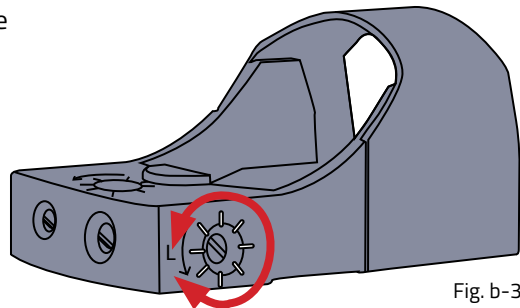

Fig. b-3
5. To move the dot left or right, use the included screwdriver to turn the screw on the right side of the DTRO counter-clockwise or clockwise, respectively. (Fig. b-3)